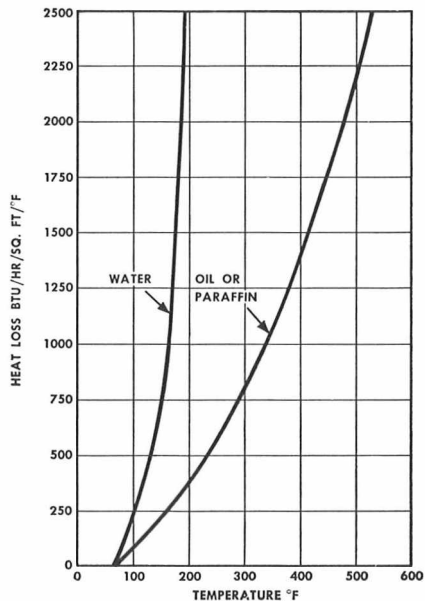

Fig. 9—Heat lost from exposed liquid surface at 70° F ambient temperature
- (1) from exposed paraffin surface (refer to Fig. 9)